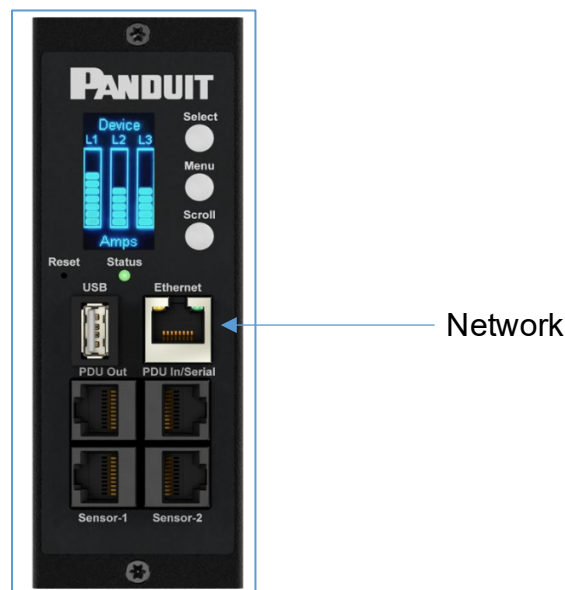

Figure 1: Ethernet Port for Network Connection
1. Connect an Ethernet cable to the Ethernet port on the PDU (see Figure 1).